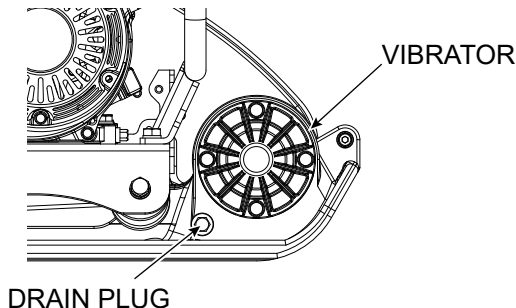

Figure 5. Vibrator Oil Check
3. Check the vibrator oil level by removing the drain plug (Figure 5).